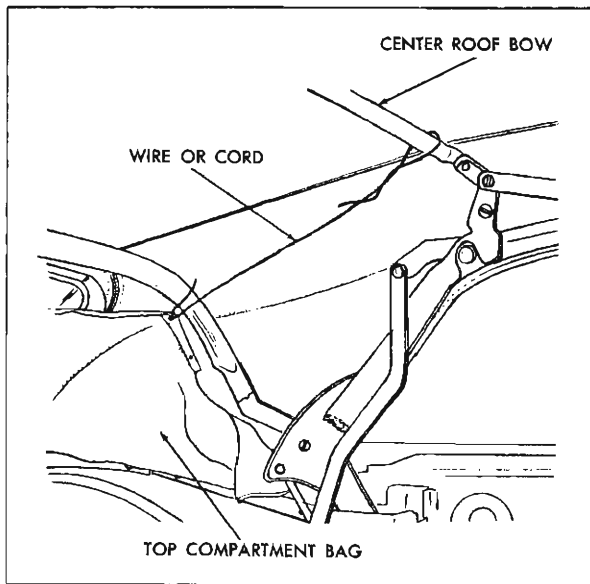

Fig. 21-31 Top Compartment Bag Tied
7. Detach folding top compartment bag from rear seat back panel, thus exposing rear quarter and rear trim stick attaching bolts. Forward end of top compartment bag may be tied or wired to center roof bow to provide ready access to attaching bolts (Fig. 21-31).